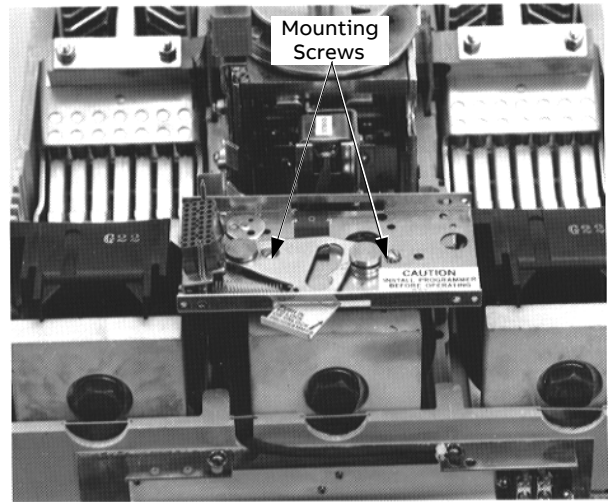

Figure 3. Trip unit mounting plate on a 2500–4000 A breaker.
- 2500–4000 A: Remove the two screws securing the trip unit mounting plate to the center-phase sensor shell, as shown in Figure 3. Lift off the trip unit mounting plate. Take care that the two nuts in the slots in the top of the CT don't fall out.
- 2500–4000 A breaker: Insert the two #8-32 x 3/8 screws removed in step 8 into the holes in the mounting plate, as shown in Figure 3. Tighten the screws into the nuts installed in the slots in the top of the B phase CT, shown in Figure 21.